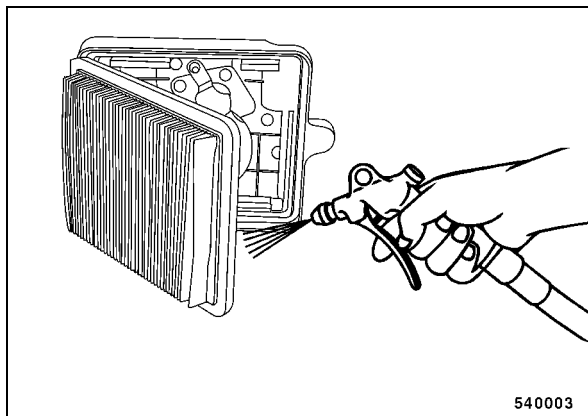

Fig. 63
- If soiled with dry fine dust blow the dry air filter out from the clean air side (Fig. 63).